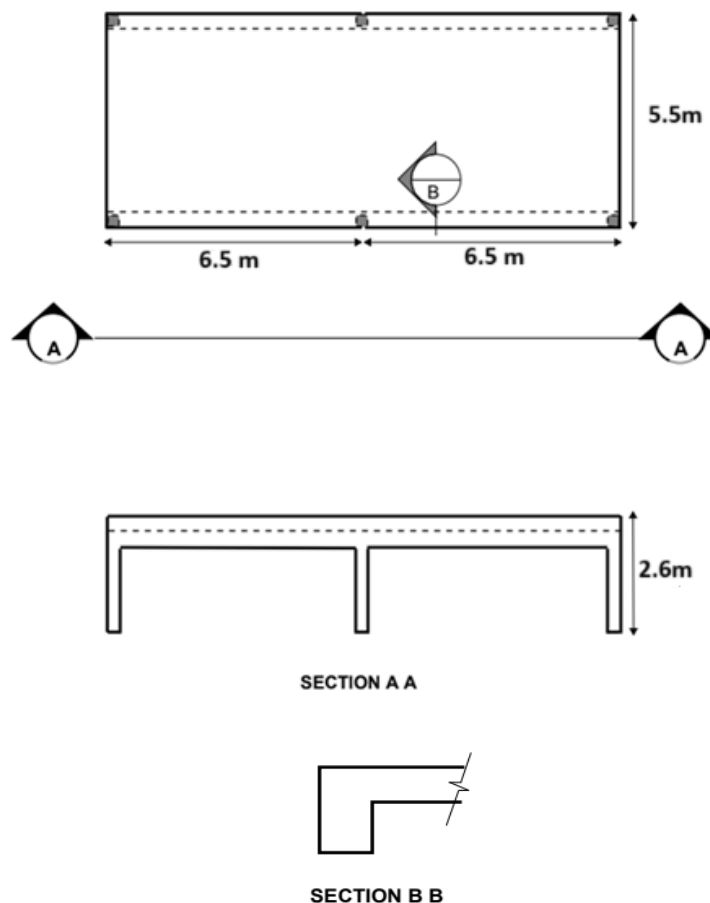

Figure 5
- b) Calculate the embodied carbon of a room shown in **Figure 5** with RCC beams, columns and slabs (related solely to the concrete and steel) with the help of the data given below.